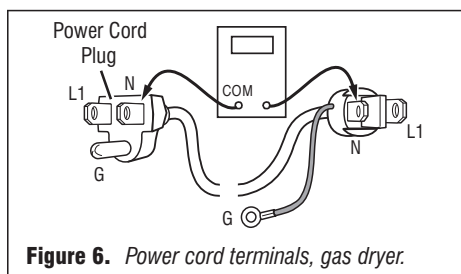

Figure 6. Power cord terminals, gas dryer.
5. With an ohmmeter, check for continuity between the neutral (N) terminal of the plug and P8-3 (white wire) on the machine control board. The left-hand side of figure 6 shows the position of the neutral terminal (N) on the power cord plug. Also see figure 17, page 10.
- If there is no continuity, disconnect the white wire of the harness from the power cord at the location illustrated in figure 5. Test the continuity of the power cord neutral wire as illustrated in figure 6. If an open circuit is found, replace the power cord. Otherwise, go to step 6.
- If there is no continuity, check the continuity of the power cord in a similar way to that illustrated in figure 6, but for power cord's L1 wire.